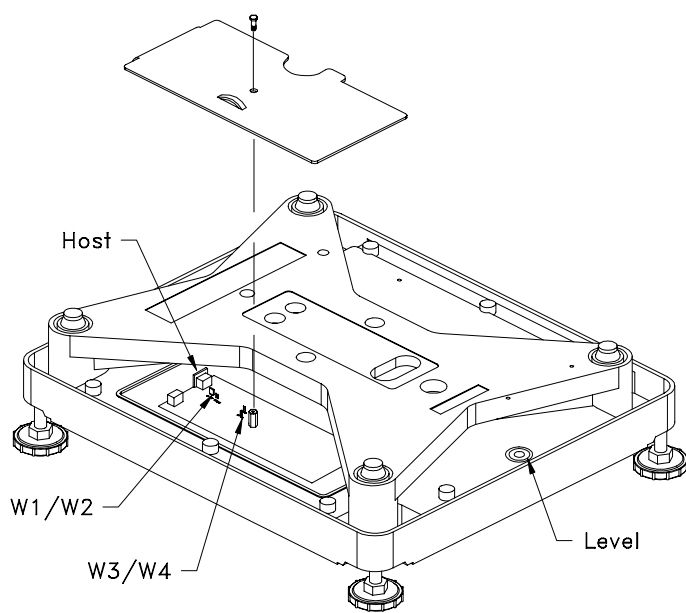

Figure 3-2 Model 8270 Jumper W1-W4, Host Connector, and Level
7. Re-assemble the Model 355. The jumper (P/N (*)10906700A) (included in kit) must be installed on W4 (Test) of the Model 8270 Logic PCB when using the Model 8270 scale base with the Model 355 (Figure 3-2). When selecting the load cell type in the 355 Calibration Mode, select **Ext-8270**.